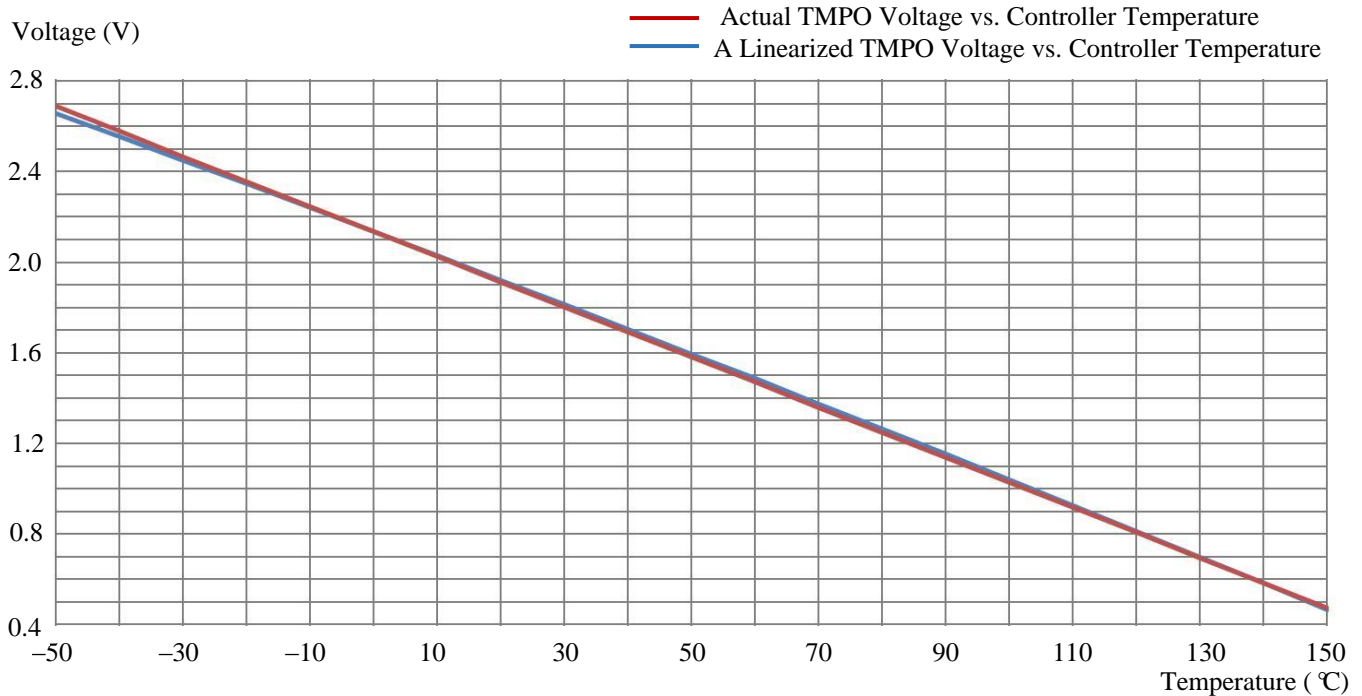

Figure 20. Controller Internal Temperature vs. TMPO Voltage
Within the most commonly used temperature range of between  $0^\circ C$  to  $100^\circ C$ , the maximum error occurs at about  $1.5V$ , at which the temperature error between the calculated data by using the formula (1) and the approximated data obtained by using the linear equation (2) is about  $0.4^\circ C$ , with the linear data being a little lower. The curves of the 2 sets of the data are plotted in Figure 20.